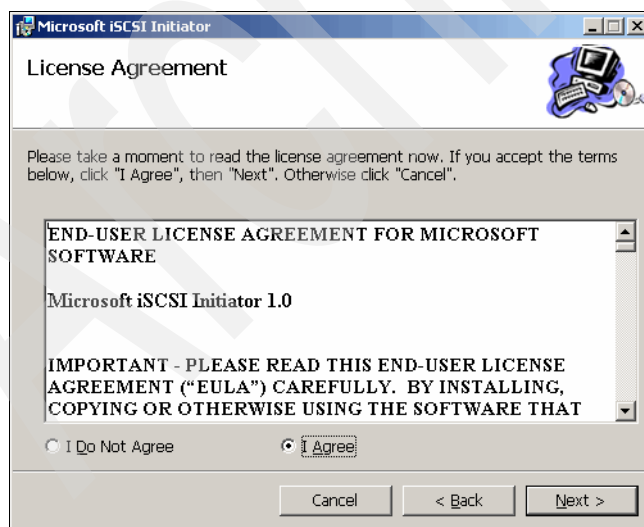

Figure 7-58 Microsoft iSCSI Initiator License Agreement panel
2. After reading the software license agreement, check the **I agree** box and then click **Next**, as shown in Figure 7-58.